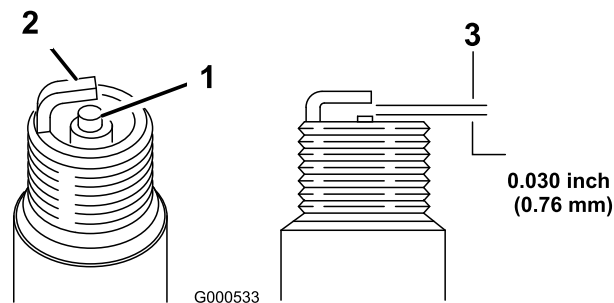

Figure 45
1. Look at the center of the spark plugs (Figure 45).
2. Check the gap between the center and side electrodes (Figure 45) and bend the side electrode, if the gap is not correct.